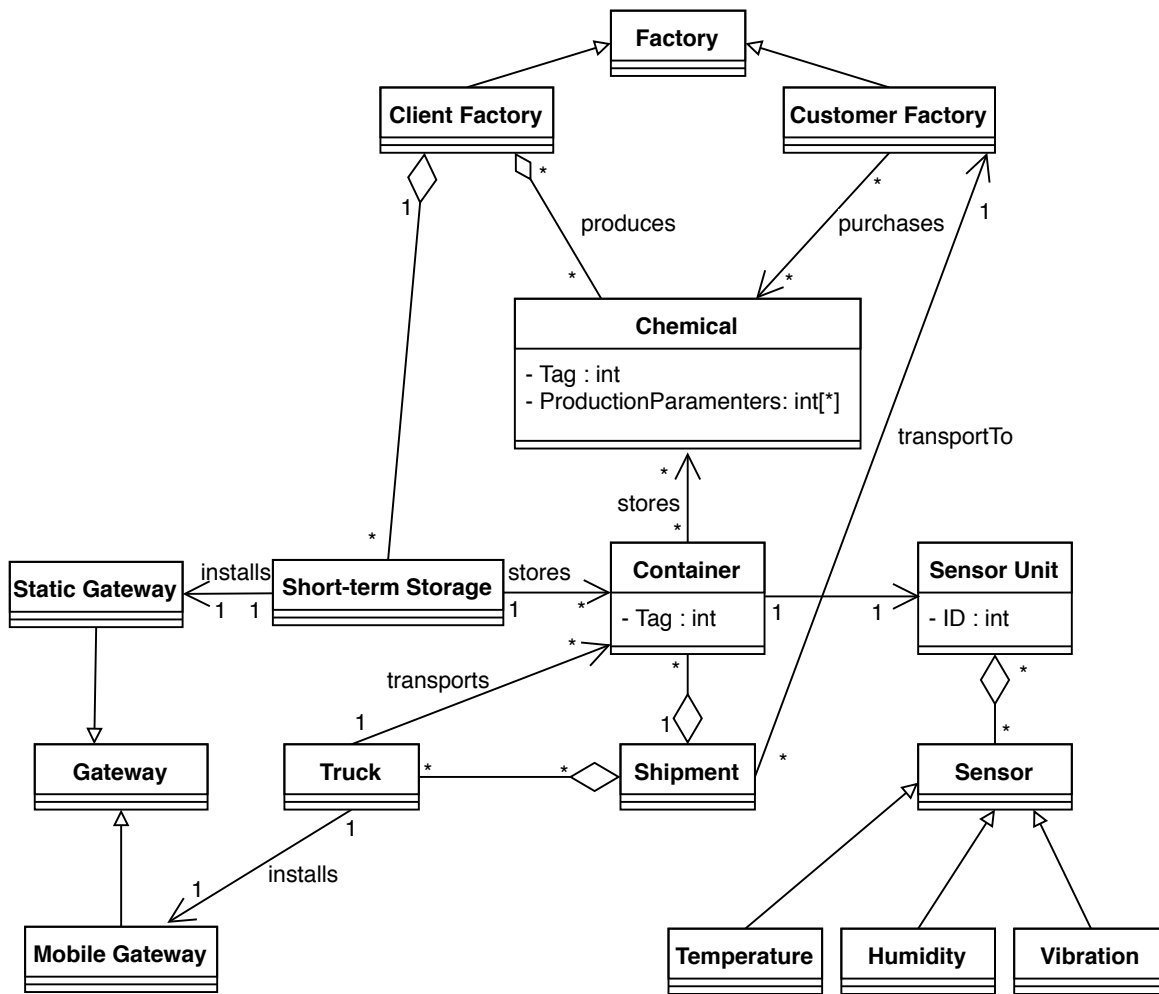

Figure 1: Class diagram of Product Monitoring
Figure 1 illustrates the class diagram of the Product Monitoring usecase specified in the requirement.
- There is no *construct deficit* since the class diagram in figure 1 already covers all the important objects mentioned in the requirement as well as the relationship between them. The attributes (which are mentioned in the requirement) are also included in corresponding classes.